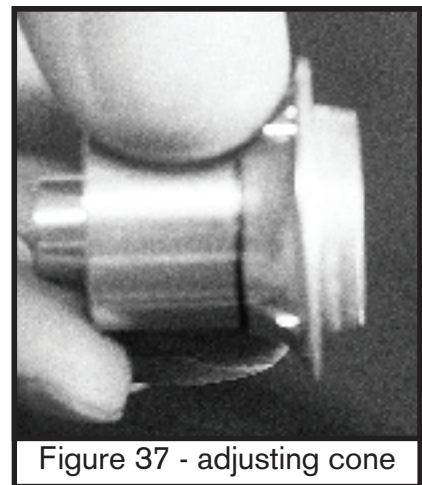

Figure 37 - adjusting cone
2. Thread adjusting cone along axle end until a small gap at the beginning of the threads shows. (See figure 37.)